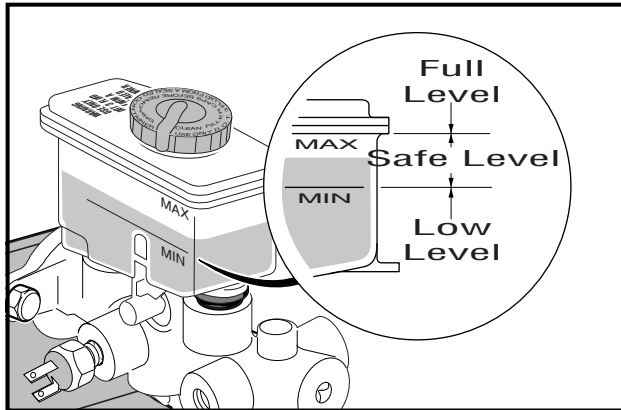

Figure 6-24 Master Cylinder Reservoir
**NOTE:** Do not allow the brake fluid in the master cylinder reservoir to drop below the “min” level mark at any time during the brake bleeding procedure (**Figure 6-24, Page 6-33**).
14. Fill the master cylinder reservoir to the “MAX” level with DOT 5 brake fluid (**Figure 6-24, Page 6-33**).